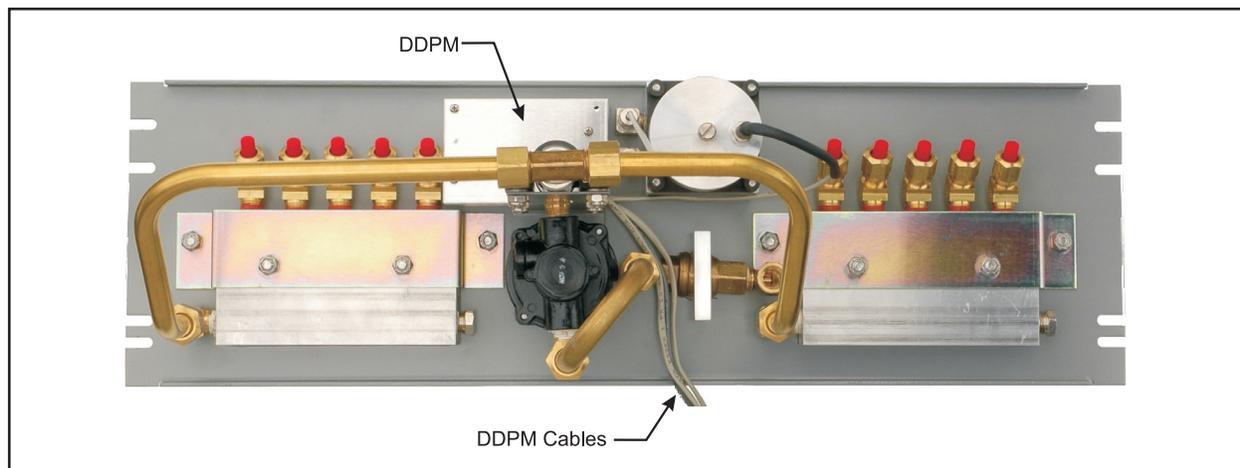

Figure 2: DDPM Component Location
On the back side of the panel, emerging from the lower right corner of the sealed DDPM component, are four conductor cables (Figure 2). The dark gray one contains the power conductors; the other three are identified by one-inch sections of color-coded heat shrink positioned approximately 1/4" out from the box. The yellow heat shrink identifies the Monitor Cable, blue is used to designate the Alarm Cable, and black identifies the Transducer Cable. The four DDPM cables serve the following functions:
- 4) Locate the DDPM module on the back side of the panel, and identify the four cables emerging from the lower right corner of the module. Figure 2 shows the back of a Digital Distribution Panel. As you can see, one of the cables (the one with the black heat shrink) is pre-connected to the wire cover of the high resolution transducer. The three coiled 15-foot cables provide the electrical connections to the incoming power and to the 289H/uM260 monitoring equipment.